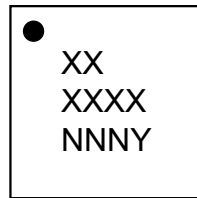

**FIGURE 5-2:** Output Voltage Setting Resistors.
- Added Figure 5-1 and Figure 5-2.